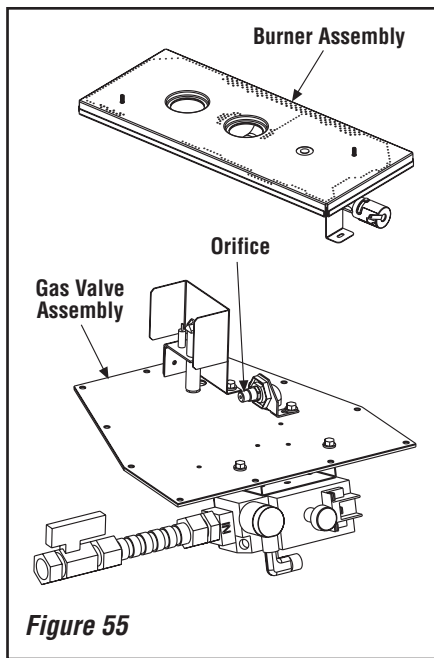

Figure 55
Step 4. Refer to *Figure 55*. Remove the burner assembly with attached venturi tube.
Step 8. (Refer to **Figure 55**)